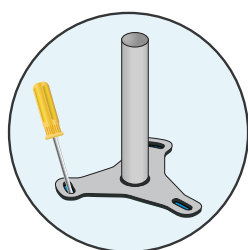

Fig 1.
2. Mark the first hole with a screwdriver/marker. (Fig 1) Move the baseplate out of the way and push the anchor into the ground where marked.